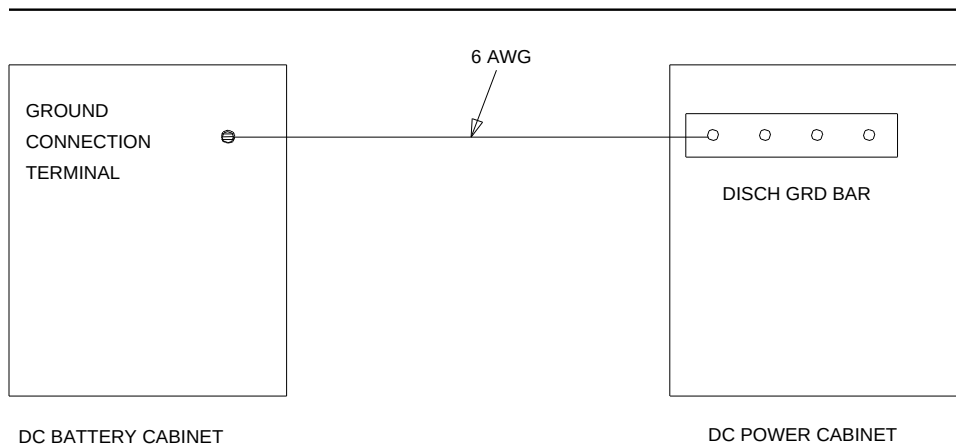

Figure 4-20. Frame Ground Grounding
4. Route the wire through one of the holes in the side of the cabinets and terminate it on the **GROUND CONNECTION** terminal in the DC battery cabinet (see Figure 4-20).